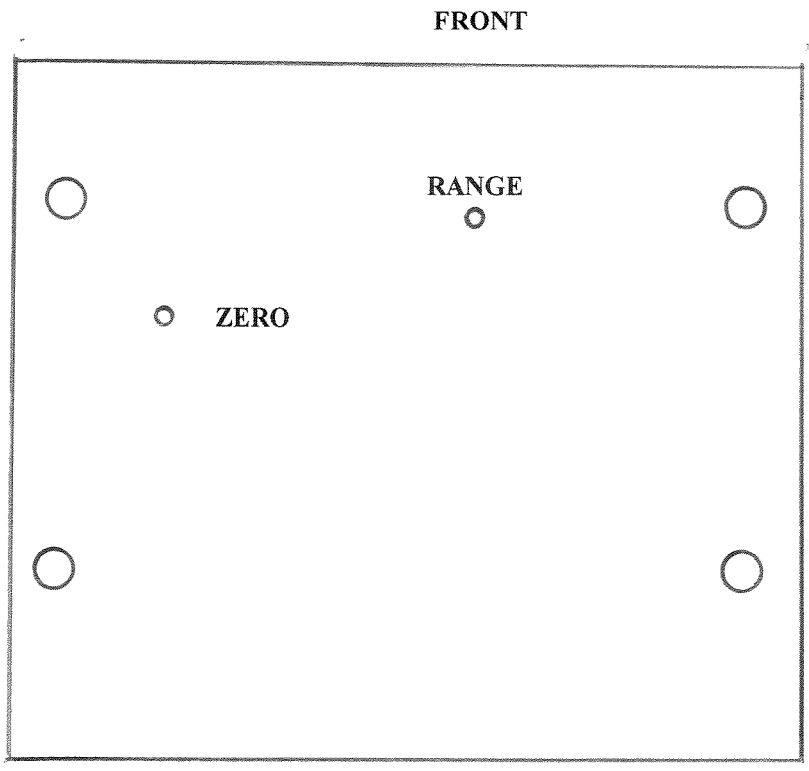

FIGURE 1. CASE BOTTOM VIEW
4. Decrease the input power to a level that just lights the VALID LED. Adjust the ZERO potentiometer through the bottom cover to obtain a reading of 632.8 ± 0.1 nm. (Figure 1).
6. Full wavelength range calibration requires three accurate laser or filter lines. A line near 520 nm and a second near 980 nm will provide satisfactory results. The width of the range is set by adjusting the RANGE potentiometer through the bottom panel (Figure 1). Record the wavelength reading for each reference line and subtract to obtain the span reading. Adjust the RANGE potentiometer carefully between sets of readings to obtain the actual range between the reference wavelengths. Then introduce the 632.8 nm to calibrate the entire span with the WAVELENGTH OFFSET potentiometer. Compensation for the diffraction grating nonlinear dispersion is performed internally.